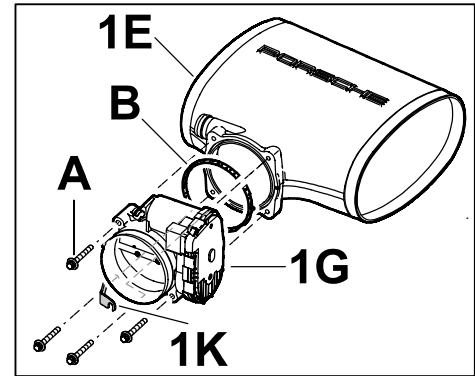

Figure 13
2.8.1 Insert new seal (⇒ 997.110.319.40; ⇒ *Figure 13 -B-*) on the distributor pipe flange ⇒ *Figure 13 -1E-*.
2.8.2 Pre-fit new electronic throttle adjuster (⇒ 997.605.116.00; ⇒ *Figure 13 -1G-*) loosely with three new Torx screws M6 x 45 (⇒ 900.385.125.01; ⇒ *Figure 13 -A-*) on the distributor pipe.
2.8.3 Fit new support foot for electronic throttle adjuster (⇒ 997.110.423.40; ⇒ *Figure 13 -1K-*) on electronic throttle adjuster with new Torx screws M6 x 45 (⇒ 900.385.125.01).